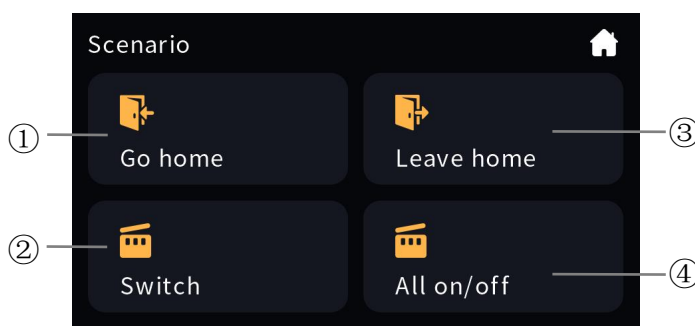

Fig.2.2.3
①~④: The layout shows the style of the selected 4 icons, shown as Fig.2.2.3 above. The marked serial number is consistent with the sequence number of the function icon in the ETS, that is, the